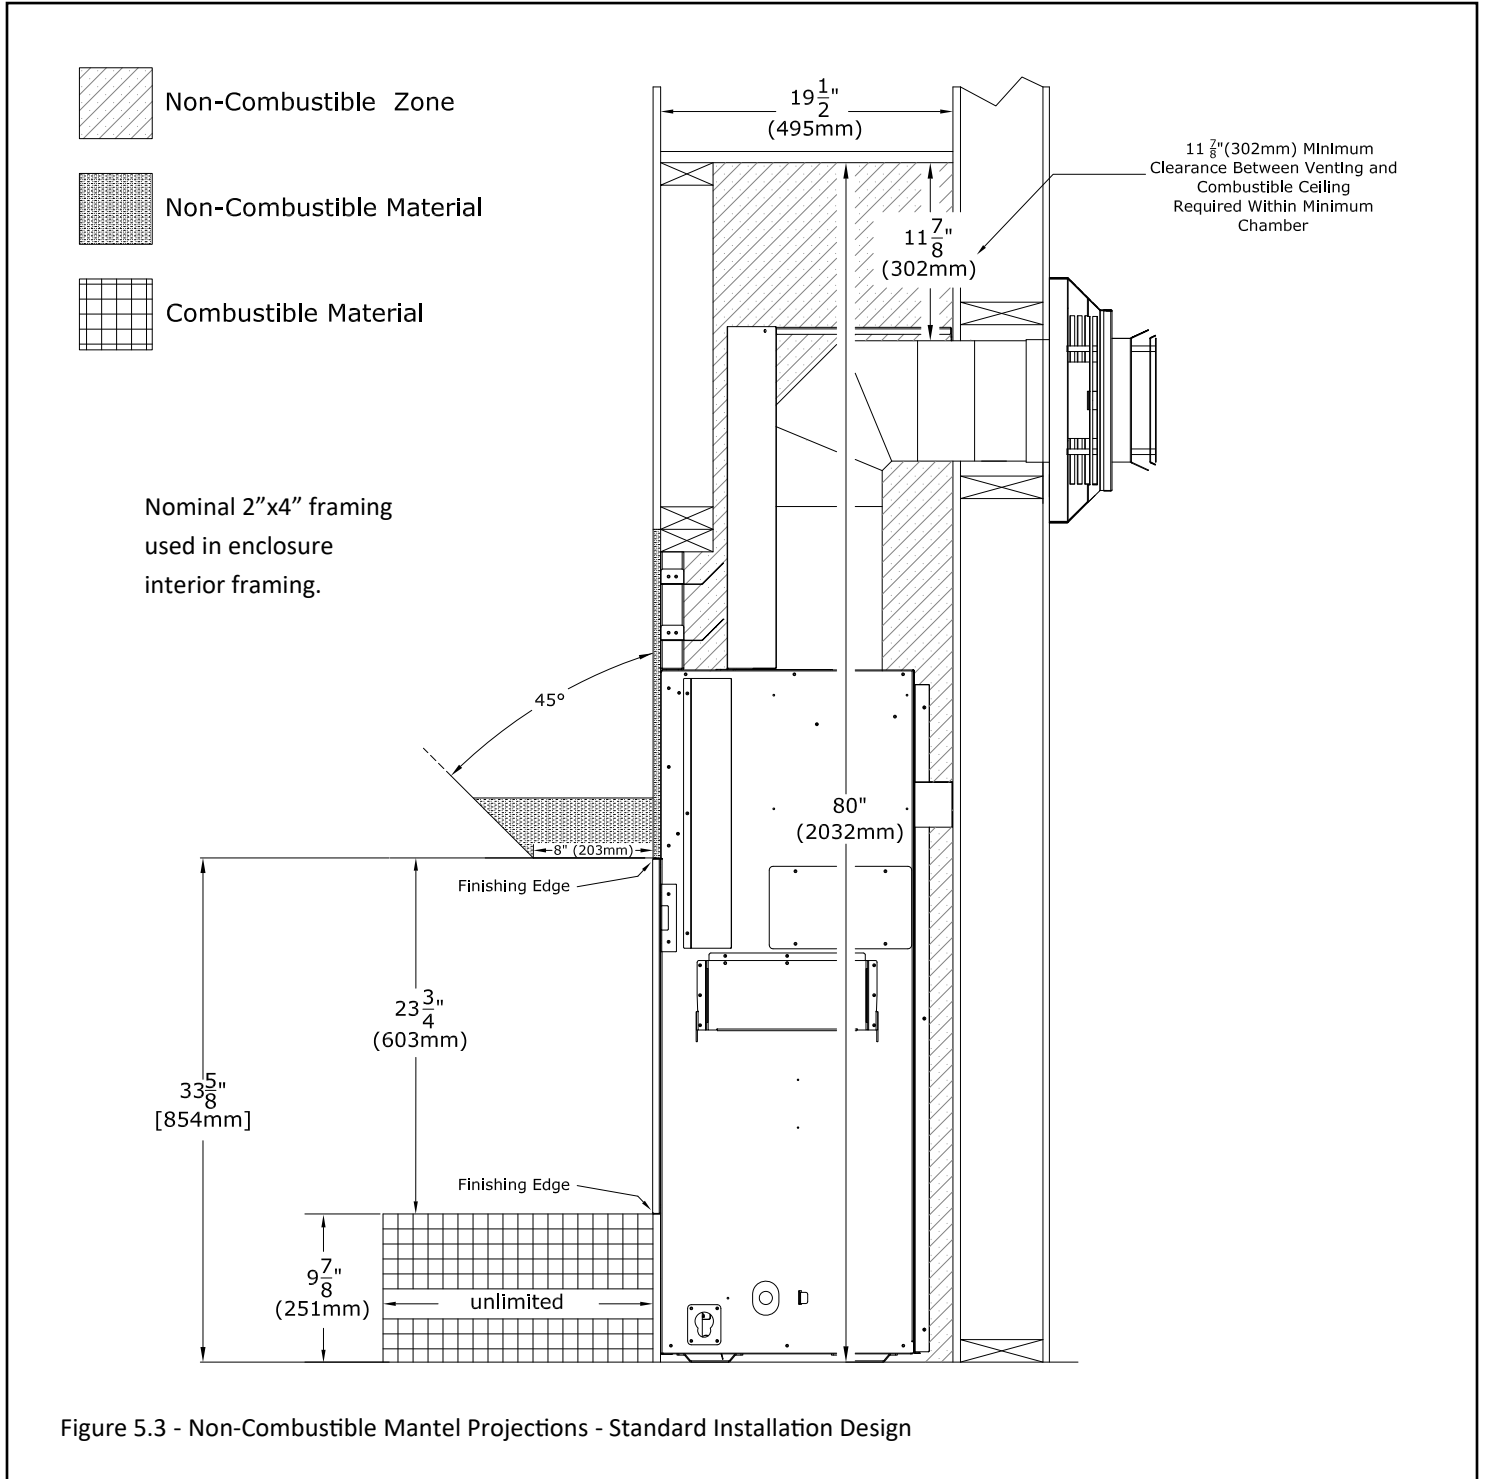

Figure 5.3 - Non-Combustible Mantel Projections - Standard Installation Design
- **Noncombustible Mantel Projections:** As referenced in FIGURE 5.3, the 8" noncombustible mantel projection can start at 0" (0mm) from the top fireplace finishing edge. Follow projection 1" (25mm) up for every 1" (25mm) deeper.
Figure 5.3 shows a 8" (203mm) non-combustible mantel projection flush with the top finishing edge of the fireplace. The dimensions shown are allowed in the standard installation scenario. Mantel projections can increase 1" (25mm) of depth for every 1" (25mm) of height starting at the 8" (203mm) mantel. A combustible hearth is allowed with unlimited projection starting flush at the bottom finishing edge of the fireplace.